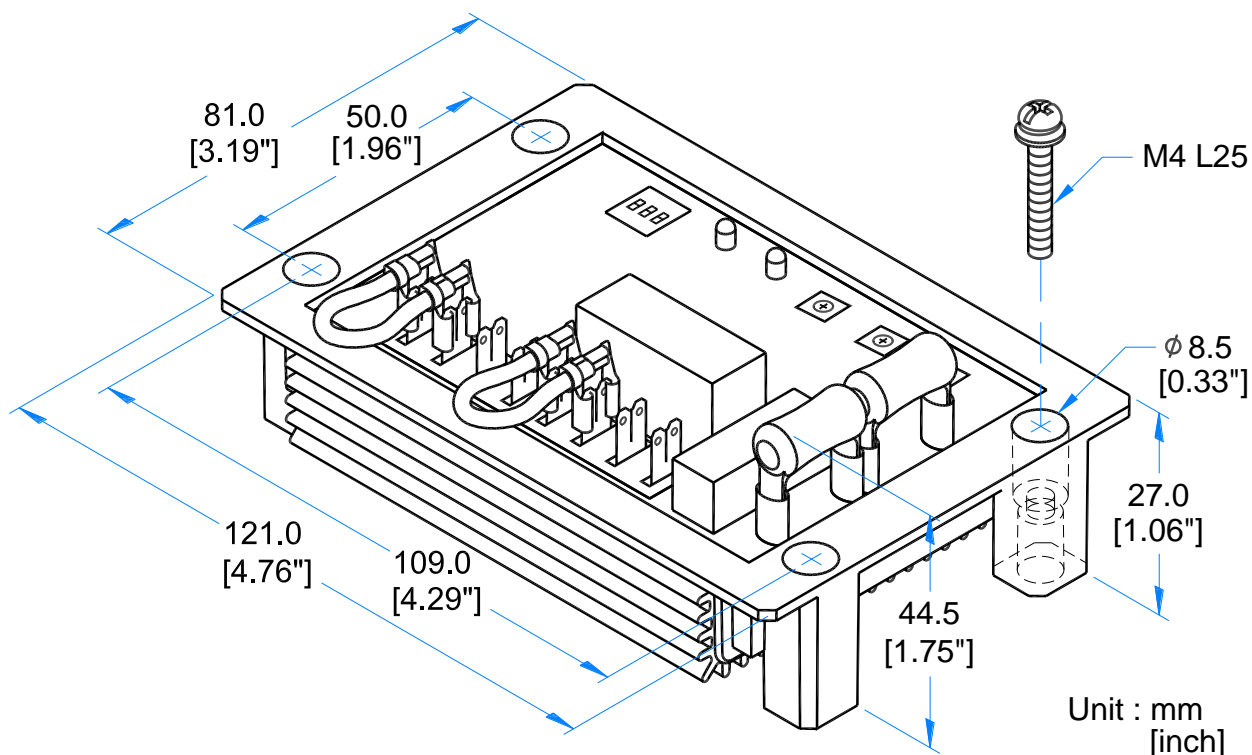

Figure 1 Outline Drawing
2. The voltage regulator may be installed at any suitable location on the generator set (dimensions are shown in Figure 1). It is recommended that unit is mounted vertically with the green resistors on the regulator upwards to achieve the best cooling effect.